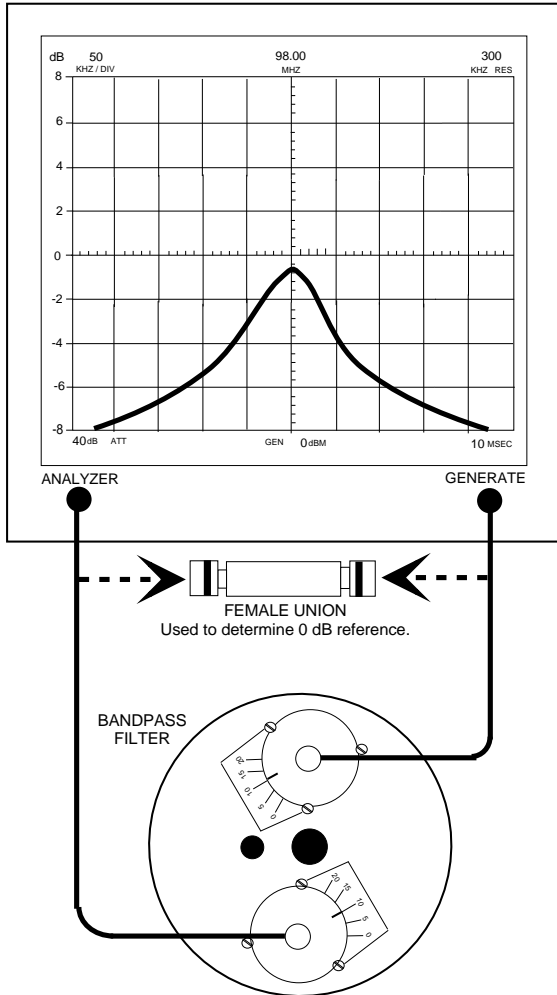

Figure 3: Checking cavity tuning.
- The resonant frequency of the filter is checked by connecting the tracking generator to the input of the cavity filter while the spectrum analyzer is connected to the output, as shown in figure 3.
- Set the fine tuning knob at it's mid-point. Adjust the pass frequency by setting the peak (minimum loss value) of the response curve to the desired frequency (should be the center-vertical graticule line on the IFR A-7550's display). See figure 3. The resonant frequency is adjusted by using the coarse tuning rod, which is a sliding
- A zero reference must first be established at the IFR A-7550 before the insertion loss can be measured. This is accomplished by temporarily placing a "female union" between the generator output and analyzer input, see figure 3.
4. Connect the generator output and analyzer input to the input/output ports of the loop plates and the insertion loss will be displayed on the IFR A-7550's screen, refer to figure 3.